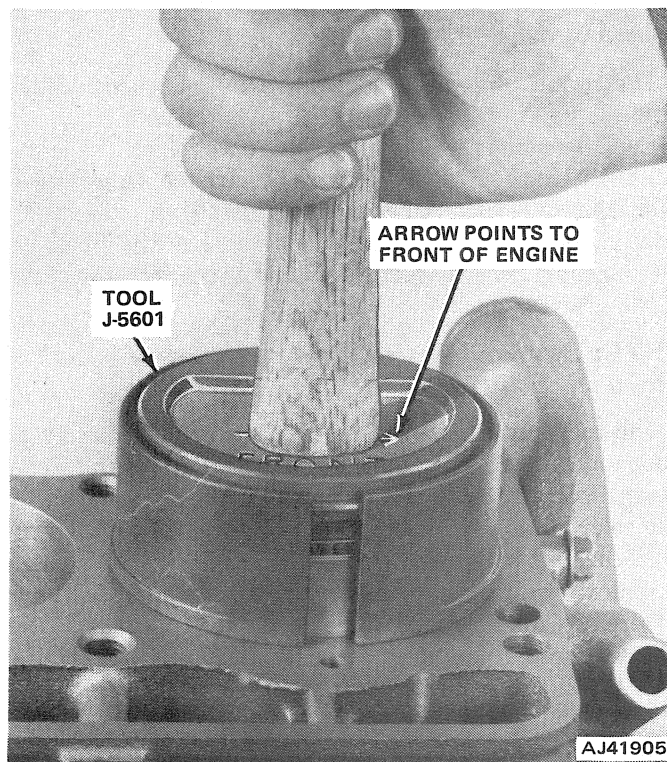

Fig. 1B-76 Piston Installation
- (1) Clean cylinder walls thoroughly. Apply light film of clean engine oil to walls with clean, lint-free cloth.
- (2) Install piston rings on pistons. Refer to Piston Rings for procedure.
- (3) Lubricate piston and rings with clean engine oil.
- (4) Use Piston Ring Compressor Tool J-5601 to install connecting rod and piston assemblies through top of cylinder bores (fig. 1B-76).
- (5) Install connecting rod bearing caps and inserts in same order as removed.
- (6) Install oil pan using replacement gaskets and seals. Tighten drain plug.
- (7) Install gasket and cylinder head.
- (8) Fill crankcase with clean oil to specified dipstick level.